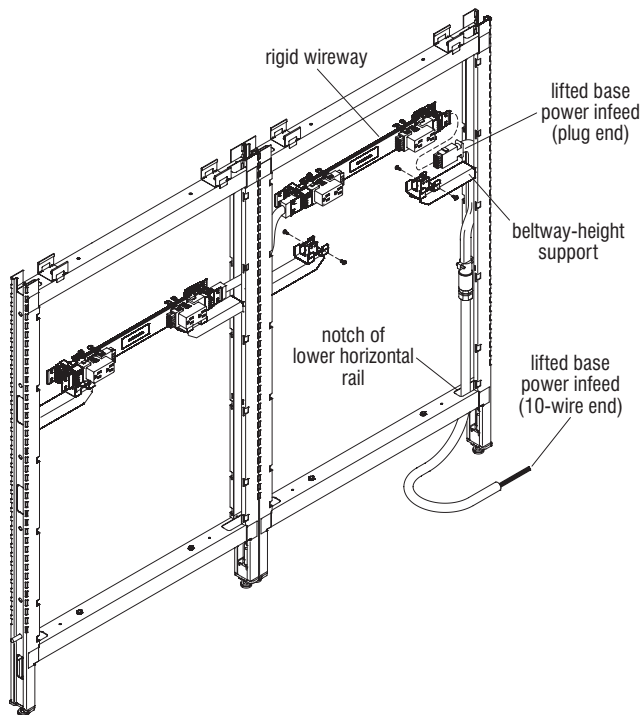

Figure 12 - Lifted Base Power Infeed
1. Position the lifted base power infeed inside the vertical channel of the frame upright, and route the plug end of the infeed up and over the top of the beltway-height support bracket as illustrated (Figure 12).
2. Remove the screws attaching the rigid wireway to the beltway-height support brackets, move the wireway away slightly and plug the power infeed into the rigid wireway. Once secure, re-attach wireway to support brackets (Figure 12).
3. Lastly, route the 10-wire end of conduit down through the notch in the lower horizontal rail next to the vertical frame upright and let rest on the floor (Figure 12)